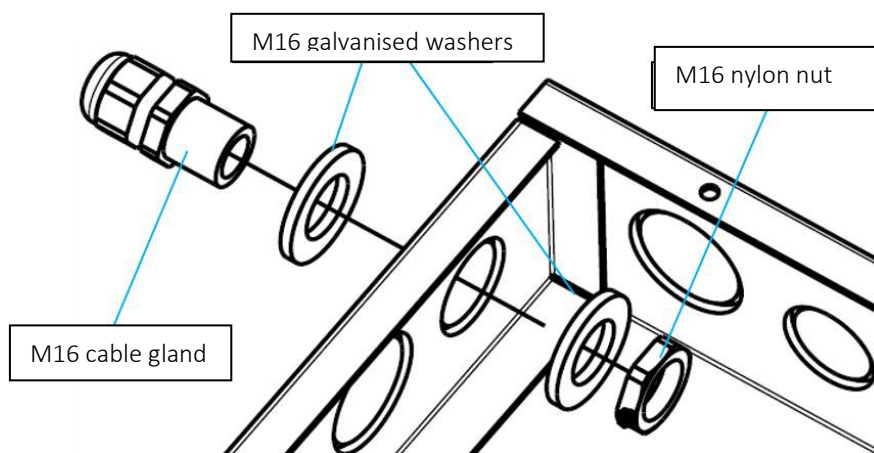

Fig. 40 Cable gland installation diagram
- C. Fasten the cable gland to the junction box as shown in Figure 40.
- C. Fasten the cable gland to the junction box, as shown in Figure 40.